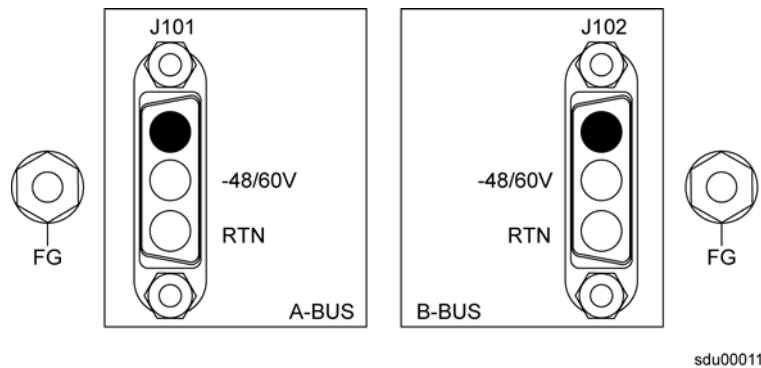

Figure 2-2. SSU-2000e Power Input Connector
Refer to Figure 2-2 for power connections. Pin 1 of each connector is not used. Pin 2 of each connector is $-48/60$ VDC and pin 3 is the Return. The $-48/60$ VDC power inputs have feed-through Pi-filters on each line through the front panel and DC Isolated from Frame and Logic ground. The power return connections are connected to Frame and Logic ground. Both the A-BUS and B-BUS power are fed to the individual module slots through the backplane.
2. Attach 1.29 mm² (minimum) stranded wire to two DA3W3P connectors (supplied) as shown in Figure 2-2.